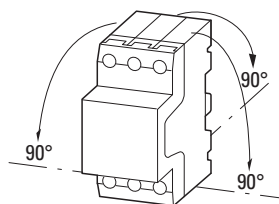

Figure 7: Approved mounting positions of the PKZM0-.../XTPR...BC1NL motor-protective circuit-breakers
► Mount the motor protective circuit breaker only as shown in → Figure 7.